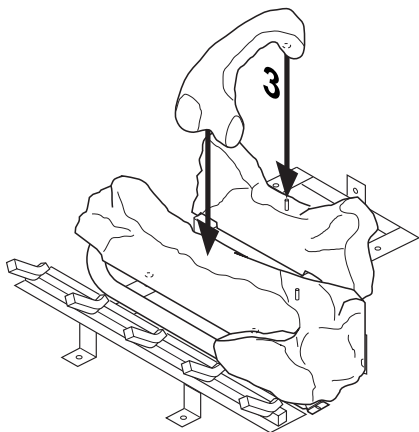

Figure 42 - Installing Log No. 3
- Place log #3 (crossover log) onto the rear and front logs. Make sure it is seated properly on the smooth surface on the front log and on the pin on the back log as shown in Figure 42.